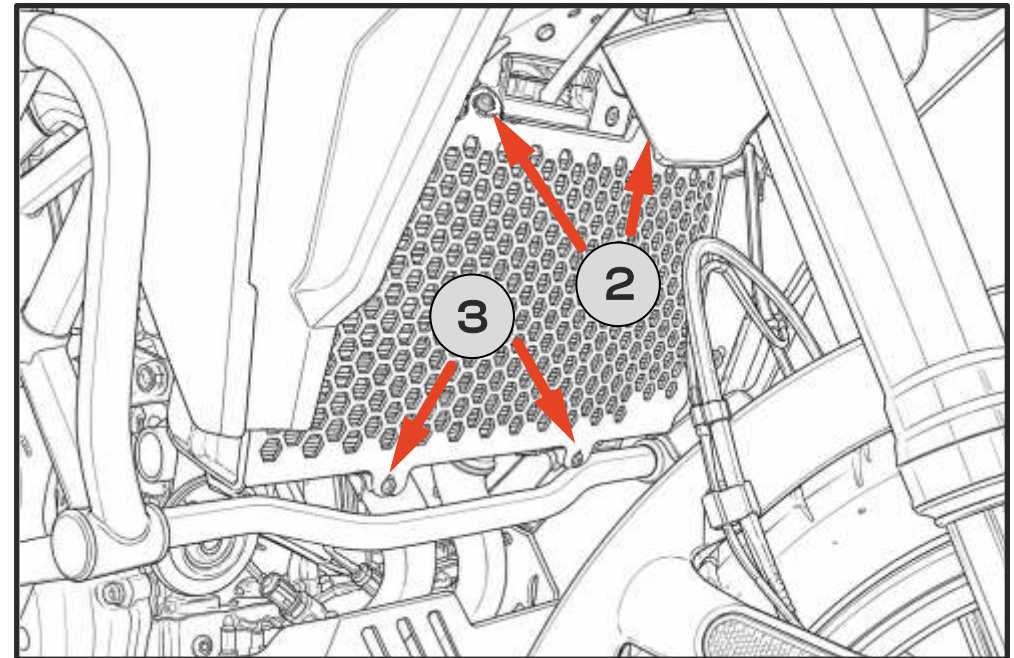

Fig.3
2. Fasten the Radiator Guard **[1]** at the upper mounting points using bolts **[4]** and washers **[7]**. **[Fig. 1], [Fig. 3]**
3. Fasten the Radiator Guard **[1]** at the lower mounting points to the mounting plate using bolts **[3]** and washers **[6]**. Fit Spacer **[2]** between the components, then secure it from the rear with nuts **[5]** and washers **[7]**. **[Fig. 1], [Fig. 3]**